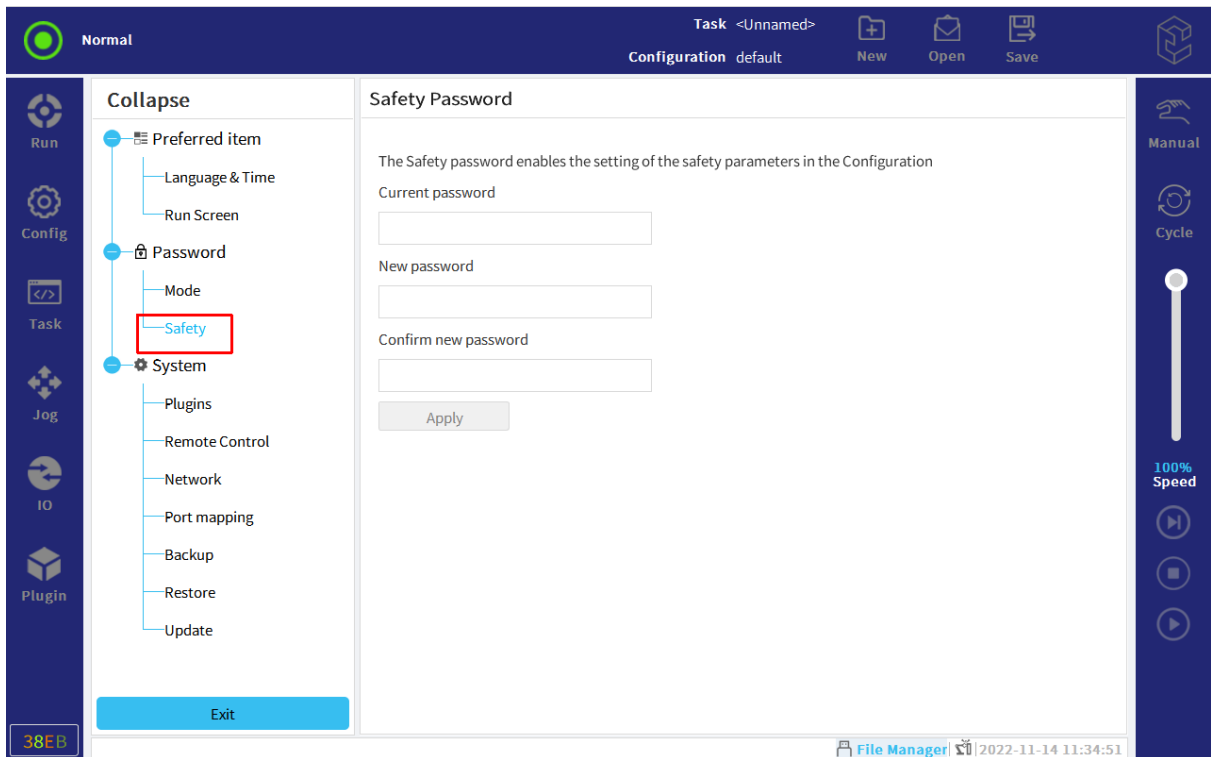

Figure 9-2 Safety password
2. Select "Settings > Password > Safety" to enter the "Safety" page, as shown in Figure 9-2.